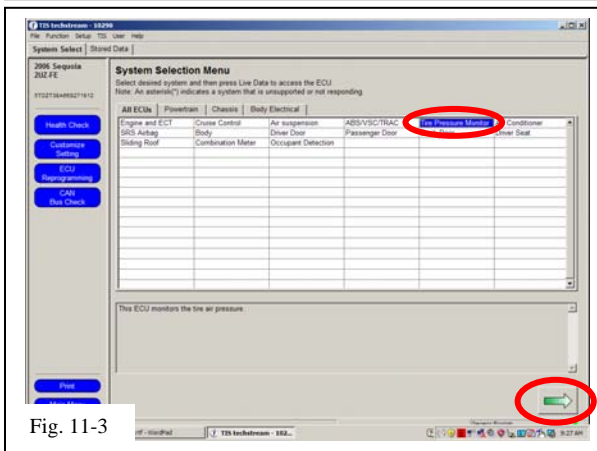

Fig. 11-3
- Select “**Tire Pressure Monitor**” then click the green arrow located on the bottom right. (Fig. 11-3)